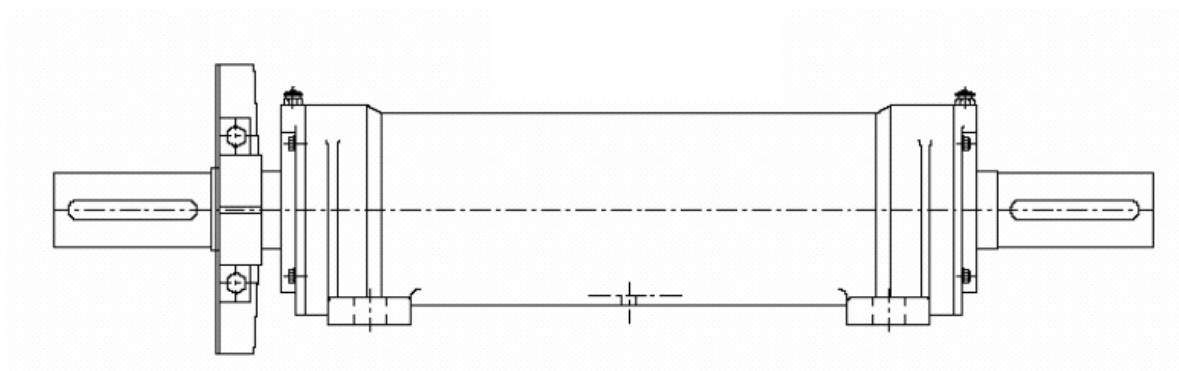

Fig. 10-12 Support with cooling fan
21.- If necessary for the type of coupling, fit the spring of the flexible coupling (Fig. 10-12), grease the various components and close the covers.
22.- Reassemble the cooling fan (8) in its initial position.
24.- Replace the support guard (12) and the flexible coupling (14).